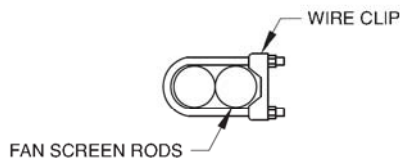
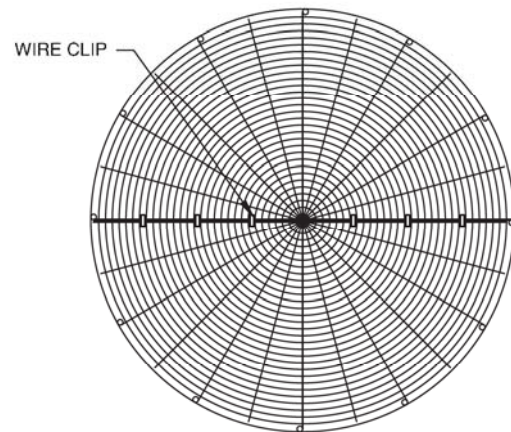

Figure 19 - Wire Clip Arrangement
Figure 20 - Wire Clip Spacing
3. Join the two screen halves with wire clips (Figure 19). There should be 4 wire clips on each side of the fan screen. Space the wire clips evenly across the radius of the fan screen as shown in Figure 20.
3. Join the two screen halves with wire clips (See Figure 19). There should be four clips on either side of the fan screen. Space them evenly as shown in Figure 20.